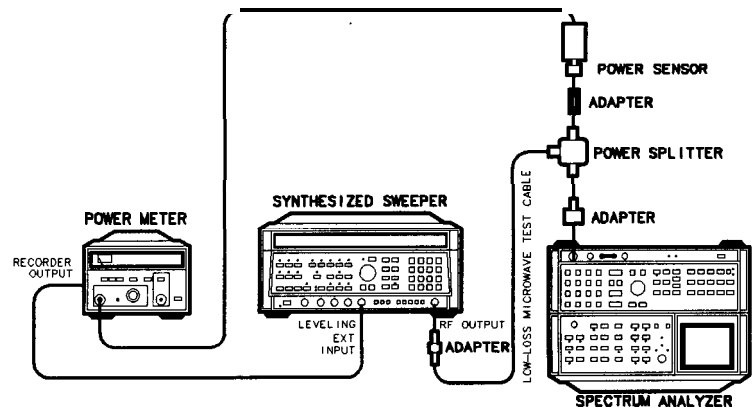

Figure 3-91.
20. Connect the equipment as shown in Figure 3-91, with one resistive output of the power splitter connected to the power meter/power sensor using an APC 3.5 (m) to Type N (f) adapter, and the second resistive output connected to the spectrum analyzer RF INPUT using an APC 3.5 (m) to Type N (m) adapter. Connect the power meter rear panel RECORDER OUTPUT to the synthesized sweeper front panel LEVELING EXT INPUT.